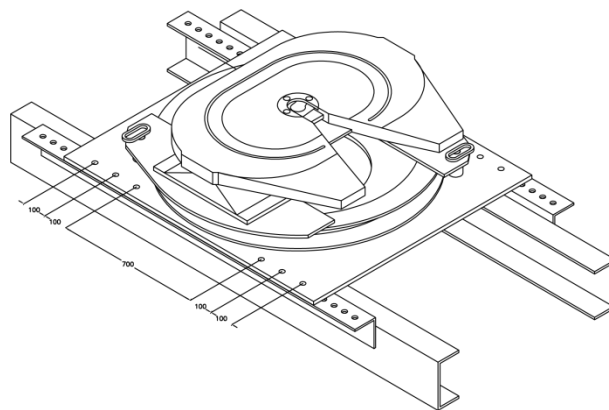

Figure 19: Typical rotating (ballrace) fifth wheel bolt spacing
- spacing around the ballrace/pivot may be extended as per Figure 19 if the bolting can be shown to give at least equivalent mounting strength/security.